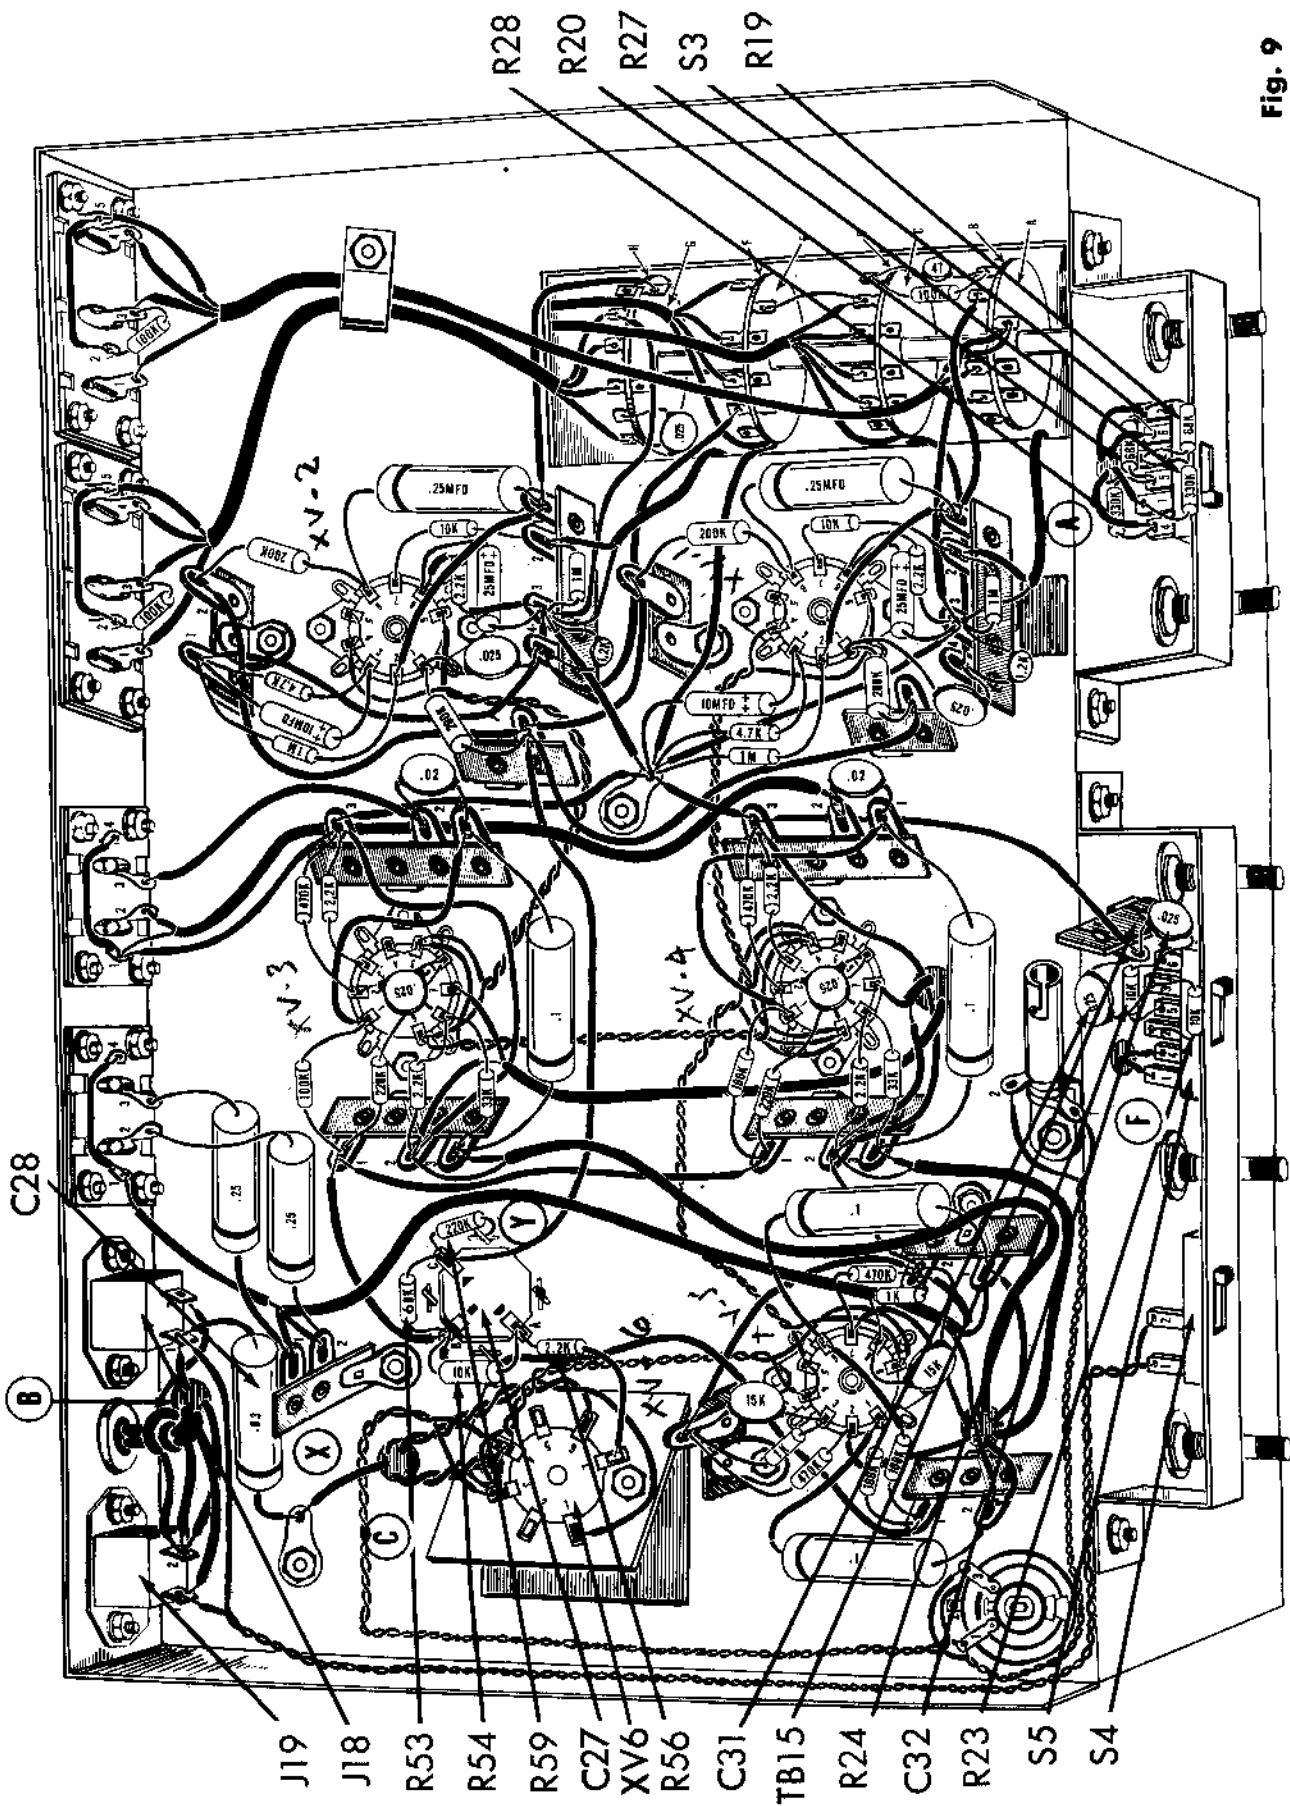

Fig. 9
1. (✓) Fig. 9. On slide switch S3, terminal 1, 2, and 3 are toward the bottom of the chassis (facing the wires) and 4, 5, and 6 are towards the top of the chassis. From hole "A" in the front of the chassis, connect the violet lead to S3-4 (C), the white lead to S3-6 (C), the blue lead to S3-3 (C) and the green lead to S3-1 (C).
2. (✓) Fig. 9. Cut both leads on two 68KΩ (blue, grey, orange, silver) resistors, R19 and R20, to 1/2". Connect R19 from S3-2 (C) to S3-3 (S2) and R20 from S3-5 (S2) to S3-6 (S2).
3. (✓) Fig. 9. Cut both leads on two 330KΩ (orange, orange, yellow, silver) resistors, R27 and R28, to 1/2". Connect R27 from S3-1 (S2) to S3-2 (S2) and R28 from S3-4 (S2) to S3-5 (S2).
4. (✓) Fig. 9. On slide switch S5, terminals 1, 2, and 3 are toward the bottom of the chassis (facing the wires) and 4, 5, and 6 are towards the top of the chassis. From hole "F", connect one blue wire to S5-1 (S1) and the second blue wire to S5-4 (S1).
5. (✓) Fig. 9. Cut both leads on two 10KΩ (brown, black, orange, silver) resistors, R23 and R24, to 1/2". Connect R23 from S5-2 (S1) to S5-3 (S1) and R24 from S5-5 (S1) to S5-6 (S1).
6. (✓) Fig. 9. Cut all leads on two .025mfd (25K or 25,000mmf) disc capacitors, C31 and C32, to 1/2". Connect C31 from S5-3 (S2) to TB15 (C) and C32 from S5-6 (S2) to TB15 (S2).
7. (✓) Fig. 9. Cut both leads on a 2.2KΩ (red, red, silver) resistor, R56, to 3/4". Cover each lead with a 1/2" piece of spaghetti. Connect from XV6-7 (S1) to C27A (S2).
8. (✓) Fig. 9. Cut both leads on a 10KΩ (brown, black, orange, silver) 1 watt resistor, R54, to 1/2". Connect from C27A (S2) to C27B (C).
9. (✓) Fig. 9. Cut both leads on a 68KΩ (blue, grey, orange, silver) resistor, R53, to 1/2". Connect from C27B (S2) to C27C (C).
10. (✓) Fig. 9. Cut both leads on a 220KΩ (red, red, yellow, silver) resistor, R59, to 1/2". Connect from C27C (S2) to ground lug "Y" (S1) at C27.
11. (✓) Fig. 9. Connect a 3" piece of black wire from J18-2 (S1) to J19-2 (S1).
12. (✓) Fig. 9. From hole "B", connect one black lead to J18-1 (S1) and the second black lead to J19-2 (S1).
13. (✓) Fig. 9. Connect one end of a 13" piece of black wire to J18-1 (S1) and one end of an 11" piece of grey wire to J19-1 (S1). Twist the two leads together and run along the chassis as shown. Connect the grey lead to S4-1 (S1) and the black lead to S4-2 (S1).
14. (✓) Fig. 9. Cut both leads on a .03mfd (orange, black, orange, white, blue) 600 volt, malded capacitor, C28, to 3/4". Cover one lead with a 1/2" piece of spaghetti and connect to J18-1 (S1). Connect the second lead to ground lug "X" (S1).
15. (✓) Fig. 9. Connect the red-yellow lead from hole "C" to ground lug "X" (S2).
16. (✓) Fig. 9. Push the line cord through the grommet between the two convenience outlets, J18 and J19. Tie a knot inside the chassis 3" from the end of the cord to be soldered. Connect one lead to J19-2 (S2) and the other lead to J19-1 (S2).